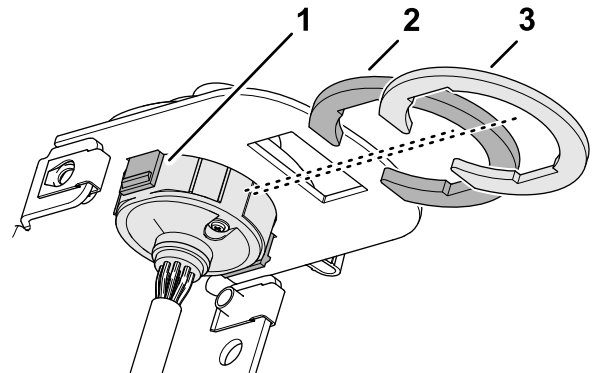

Figure 28
3. Secure the multi-function switch to the switch mount with the thick and thin switch clips (Figure 28).